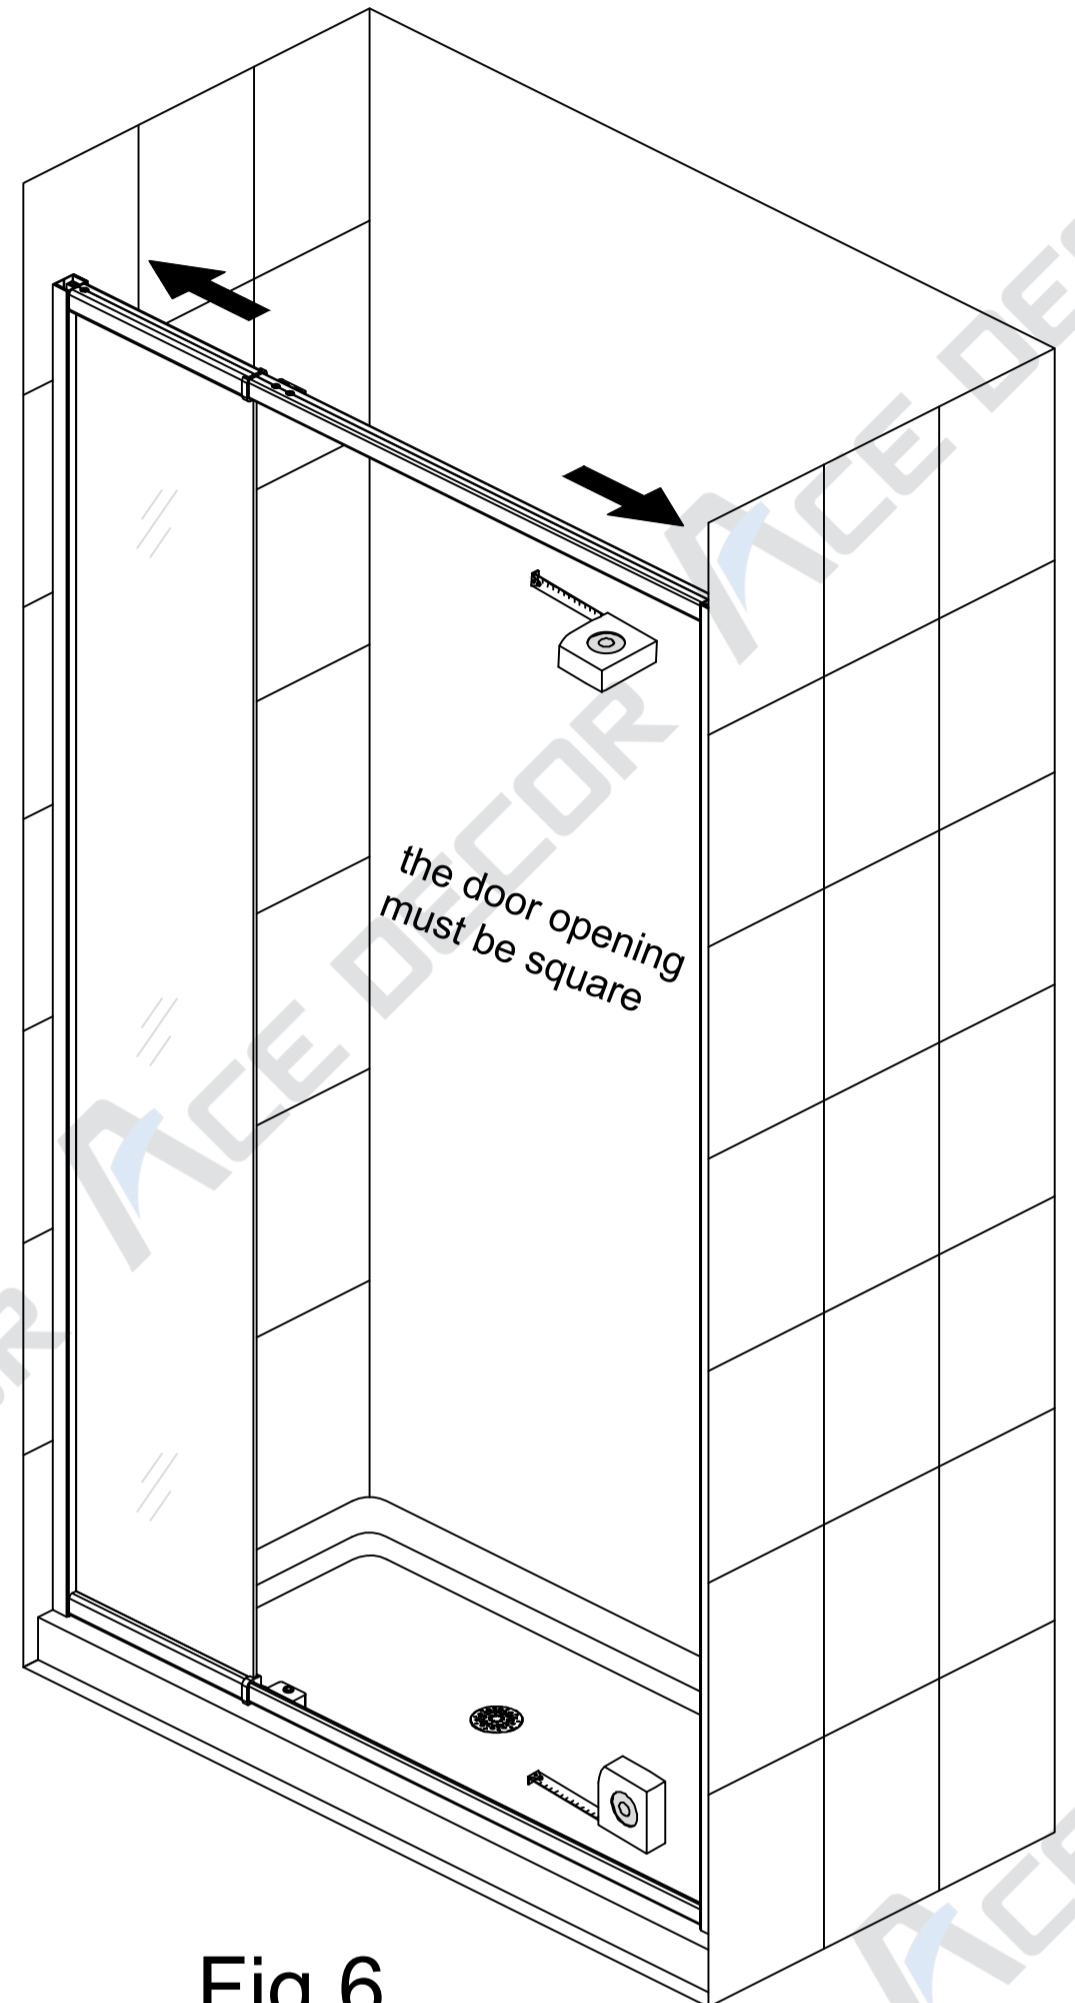

Fig 6
The opening for the door glass must be square. Measure the top and bottom of the door opening and adjust the Expandable rails as necessary. Push the **Wall Jamb (D)** tight to the walls to compensate for up to 1/2" out-of-plumb per wall. (Fig 6)